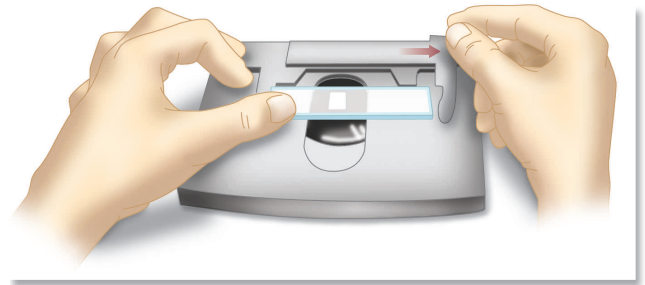

Figure 1.6 The slide must be properly positioned as the retainer lever is moved to the right.
1. Position the slide on the stage with the material to be studied on the *upper* surface of the slide. Figure 1.6 illustrates how the slide must be held in place by the mechanical stage retainer lever.